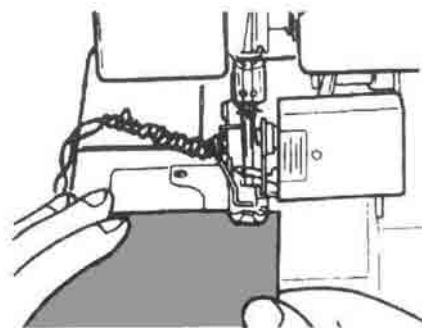

Fig. 51
- Lay all yarns under the sewing foot ②, to the rear, slightly to the left and over the stitch plate ⑬.
- Turn the handwheel ⑥ 2 to 3 revolutions onto itself to begin empty chainstitch formation.
- Lower the sewing foot ② with the sewing foot lever ④.
- Place the fabric from the front under the sewing foot ② and sew a test seam (Fig. 51). Under no circumstances should you pull on the textile, otherwise the needle will be bent or could even break off.